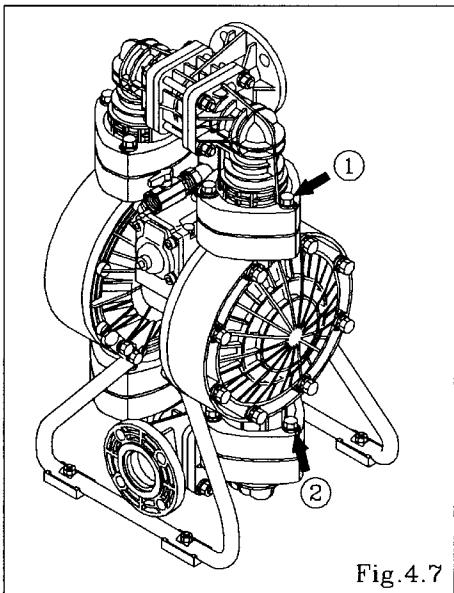

Fig.4.7
See [9. Exploded View] on after p. 13. (Fig. 4.7, 4.8 and 4.9 show the NDP-50 BP_.)
- Remove the 6 (8 on the NDP-80) retainer bolts "1" from the out manifold, and remove the protector and out manifold. [Fig.4.7]
- Remove the 6 (8 on the NDP-80) retainer bolts "2" from the in manifold, and remove the protector and in manifold. [Fig.4.7]